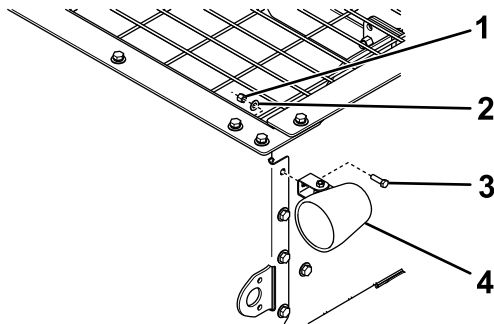

**Figure 7**
- Remove and discard the top fasteners on the back end of the hopper sides as shown in Figure 7.